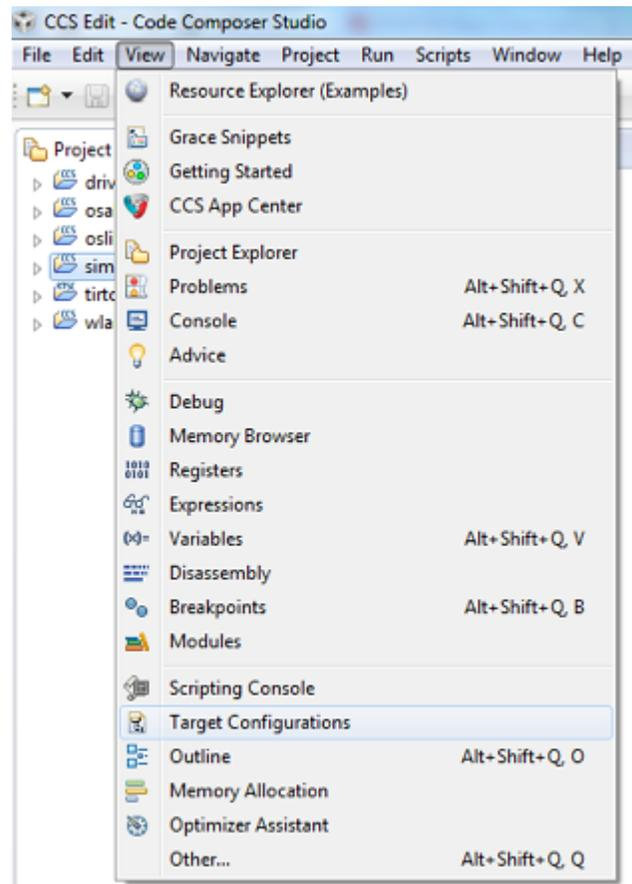
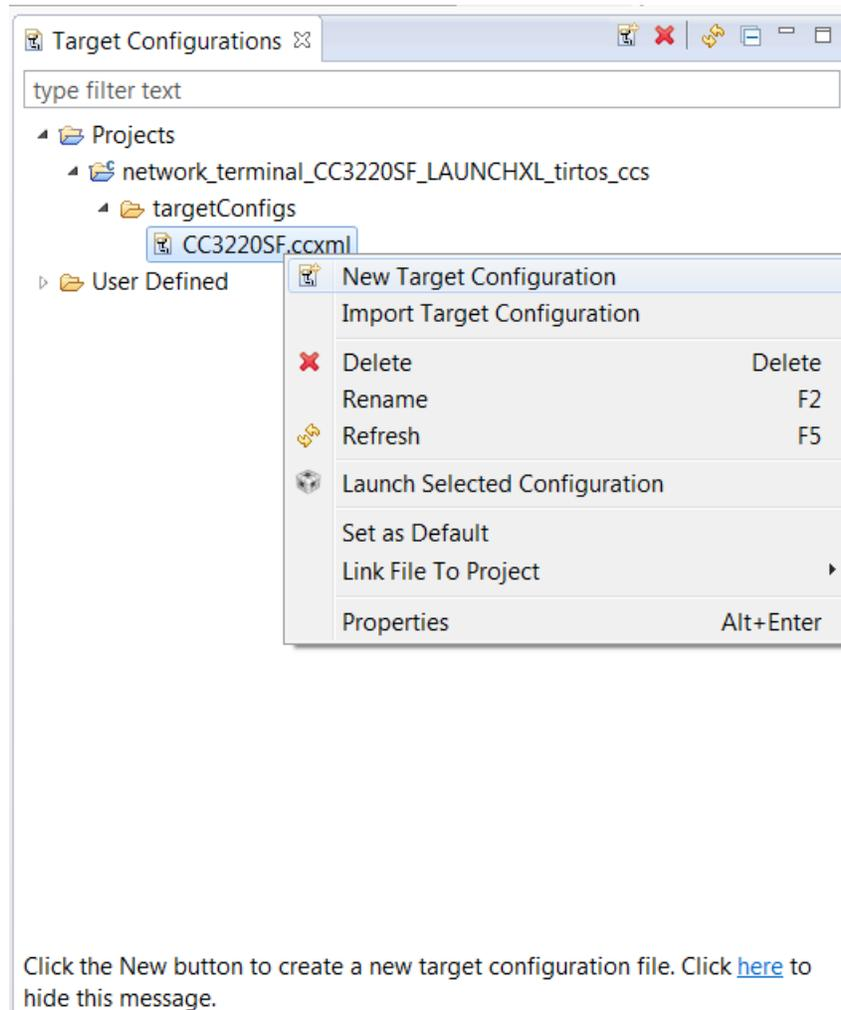

Figure 3-3. View Target Configurations
Figure 3-4. Select Target Configuration
- By default, the target configuration is defined by the application project imported in Section 2.1.1. Navigate to View → Target Configurations, as shown in Figure 3-3, to verify that the correct configuration is selected (see Figure 3-4).
3. Set this new configuration as the default by right-clicking on the filename and selecting Set as Default (see Figure 3-4).